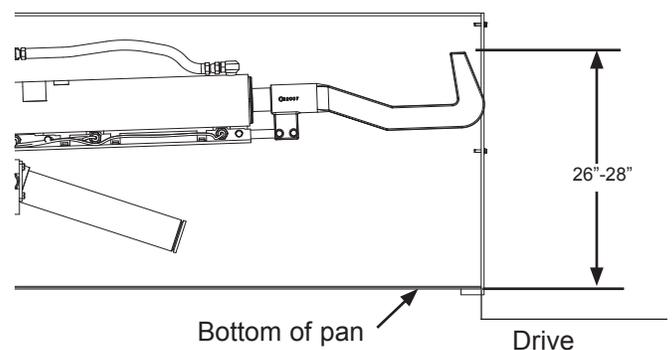

Figure 40
9. Verify the stored PowerHook height is 26" to 28" from top of PowerHook to drive as shown in Figure 40. Repeat steps 5-8 until correct height is obtained.